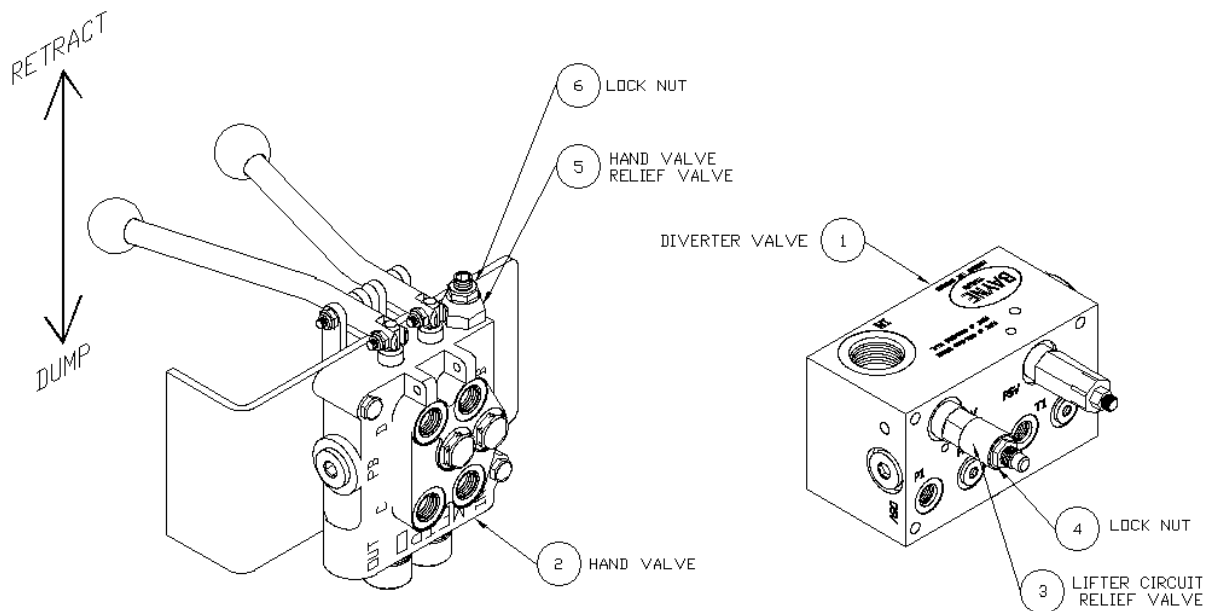

figure I-4
The diverter valve (1) (figure I-4) supplies the cart lifter hydraulic system with approximately 2 GPM of oil flow. This diverter valve is equipped with a full system relief valve (4) set at 2500 psi, to protect the truck's hydraulic system from any blockages that may occur down stream of the diverter valve. The diverter valve also includes a lifter circuit relief valve (3) set at 2300 psi, to prevent the diverter valve from shutting down if a blockage occurs in the lifter circuit. There is also a relief valve (5) set at 1800 psi in the hand valve (2) to protect the lifter from excessive pressure. These relief valves are preset from the factory to operate properly on most trucks with a system pressure between 2300 and 2500 psi without any adjustment. However, if any adjustment is necessary, follow these instructions.
2. Loosen the lock nut (8) (figure I-4) on the hand valve relief valve (5) and turn the adjustment screw clockwise until it bottoms out.
3. Loosen the lock nut (6) (figure I-4) on the lifter circuit relief valve (3) and turn the adjustment screw clockwise until it bottoms out.
4. Loosen the lock nut (7) (*figure I-4*) on the full system relief valve (4) and turn the adjustment screw counter-clockwise until it stops backing out.
7. Operate the handle on the hand valve (2) (*figure I-4*) back and forth a few times to bleed all air from the lifter hydraulic system.
- a) Have an assistant hold the handle on the hand valve (2) (*figure I-4*) in the “retract” position.
- b) Turn the pressure relief adjustment screw on the full system relief valve (4) clockwise until the pressure reading on the gauge is either 100 psi above truck system pressure, or if the pressure reaches a certain point and will not go any higher, set the adjustment screw 1/2 turn past that point.
- a) Have an assistant hold one of the handles on the hand valve (2) (*figure I-4*) (*with pressure gauge installed at the “IN” port*) in the “retract” position to show pressure on the gauge.
- b) Turn the pressure relief adjusting screw on the lifter circuit relief valve (3) counter-clockwise until the pressure reading on the gauge is either 100 psi less than the truck system pressure or 2300 psi, which ever is the lowest.
- a) Hold one of the handles on the hand valve (2) (*figure I-4*) (*with pressure gauge installed at the “IN” port*) in the “retract” position to show pressure on the gauge.
- b) Turn the pressure relief adjusting screw on the hand valve relief valve (5) counter-clockwise until the pressure reading on the gauge is either 200 psi less than truck system pressure or 1800 psi, which ever is the lowest.
17. Tighten the lock nut (8) (*figure I-4*) on the hand valve relief valve (5) to secure the correct pressure setting.
18. Tighten the lock nut (7) (*figure I-4*) on the full system relief valve (4) to secure the correct pressure setting.
19. Tighten the lock nut (6) (*figure I-4*) on the lifter circuit relief valve (3) to secure the correct pressure setting.